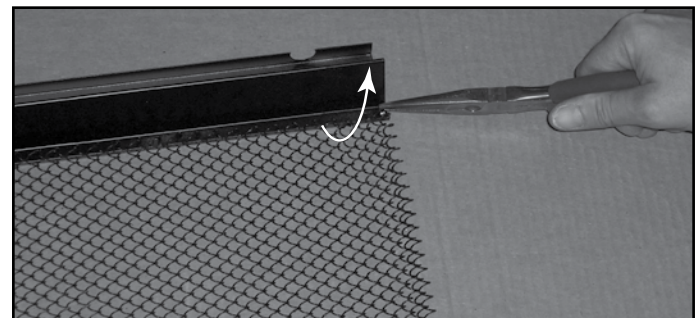

Figure 15.9 Bend Tabs to Hold Screen
- Bend tabs 90 degrees away from the screen with needle nose pliers to secure the screen to top grille. See Figure 15.9.